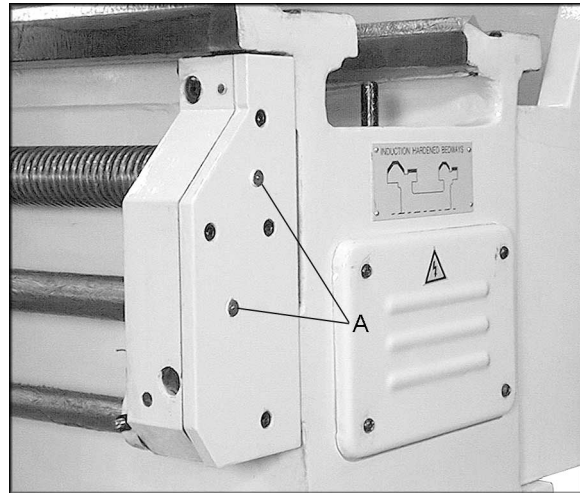

Figure 6
4. **Leadscrew and Feed Rod** – Lubricate two ball oilers on the right side bracket (A, Figure 6) with 30W machine oil daily.